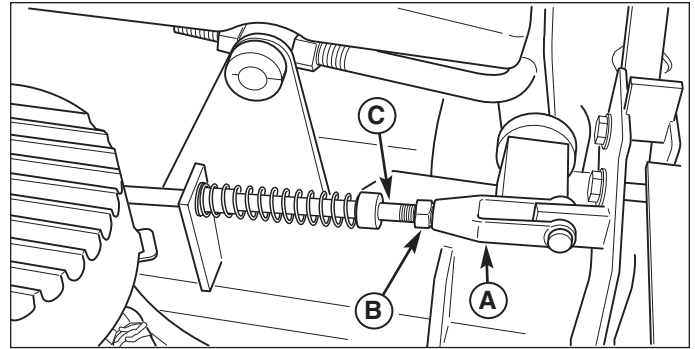

Figure 28. Neutral Spring Return Adjustment
3. Move the ground speed control levers out towards the neutral position. If the levers do not align with the notches in the neutral lock plate, it is necessary to adjust the neutral return rod (C, Figure 28).